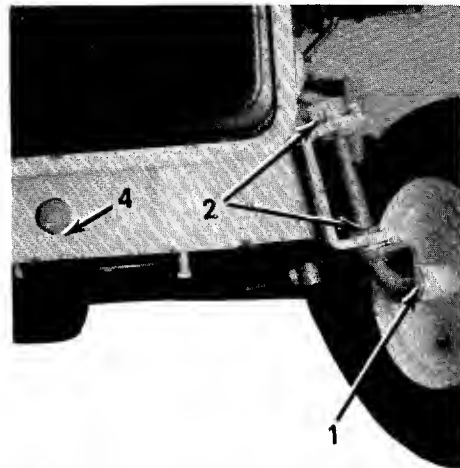

FIGURE 17
Tighten the locking nuts on the rear axle. See figure 17.
1. Front Wheel Bearings (4). Lubricate with SAE 30 oil once a season or after every 25 hours of operation. See figure 17.
2. King Pin Bearings (4). Lubricate with SAE 30 oil once a season or after every 25 hours of operation. See figure 17.
4. Pivot Bolt. Lubricate with SAE 30 oil once a season. See figure 17.